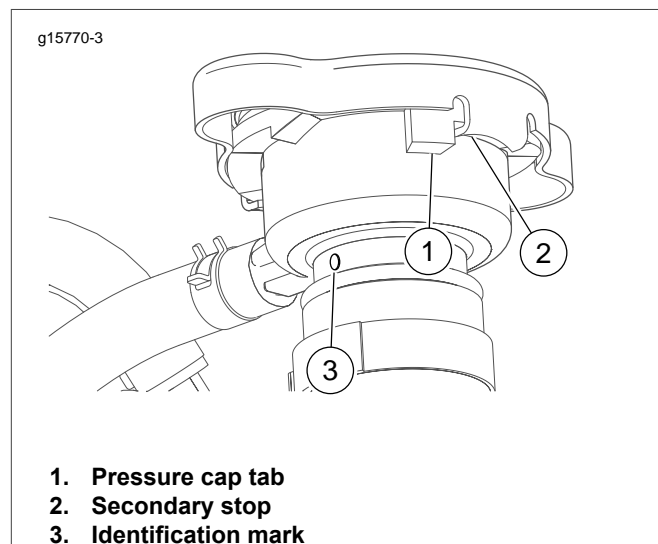

Figure 2. Pressure Cap Installation
See Figure 2. The **new** fill neck can be identified by an identification mark (3) located just above the hose.
See Figure 2. Verify pressure cap is completely tightened. Tab (2) must contact stop (1) for proper system operation.
See Figure 2. Original Fill Neck (Part No. 26800020) can be easily identified by **not having** the identification mark (3). Remove all inventory of Part No. 26800020 and return following the Additional Credit Procedure below.